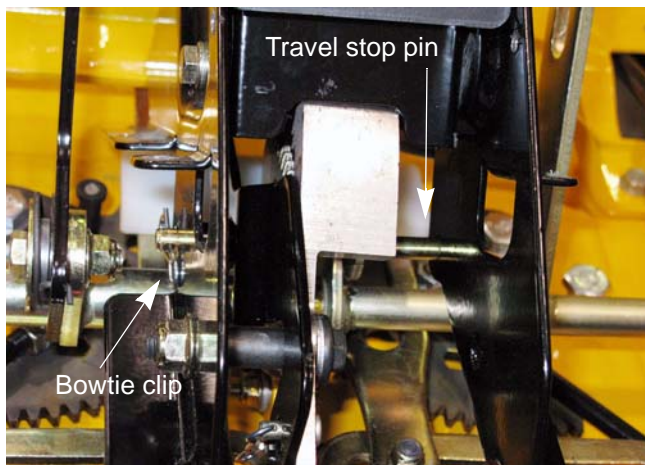

Figure 4.39
6. Remove the bowtie clip from the travel stop pin. See Figure 4.39.